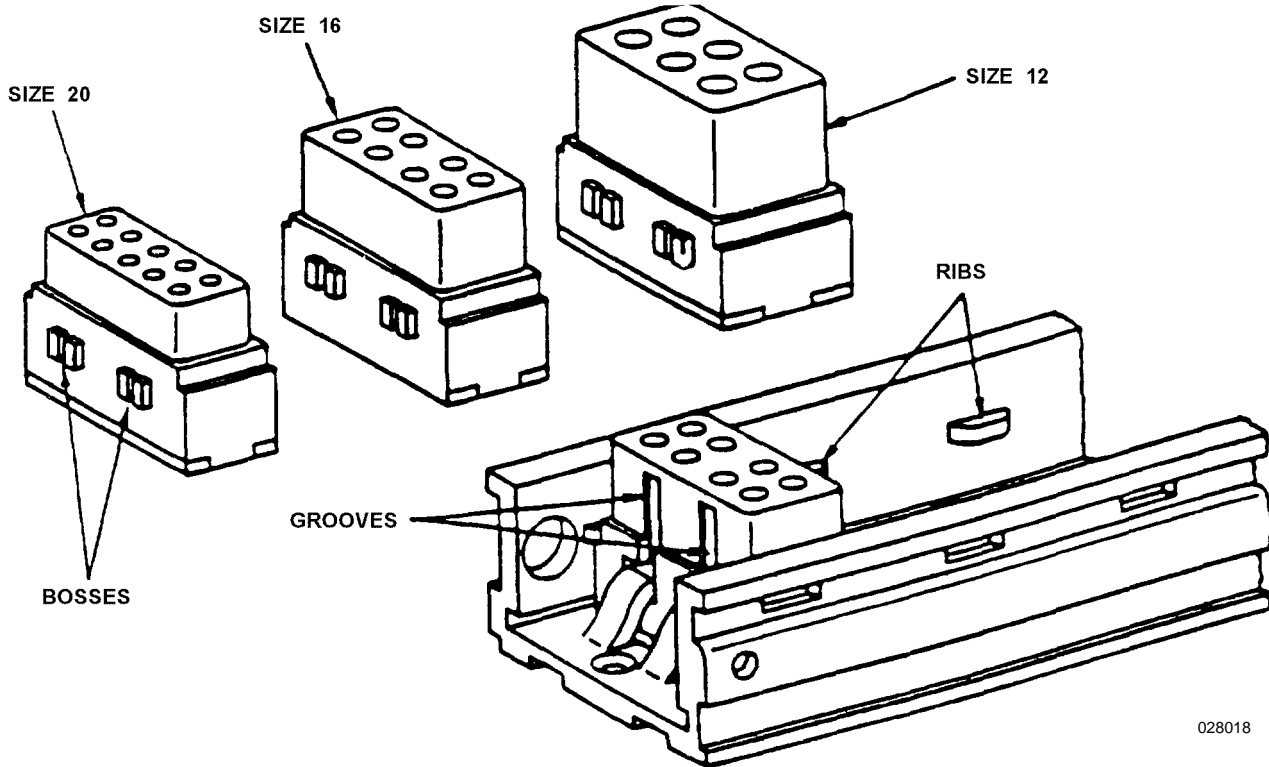

Figure 18. Feedback Terminal Junction Assembly
- c. Slide block against the permanent stop at the opposite end of the rail (Figures 18 and 21).